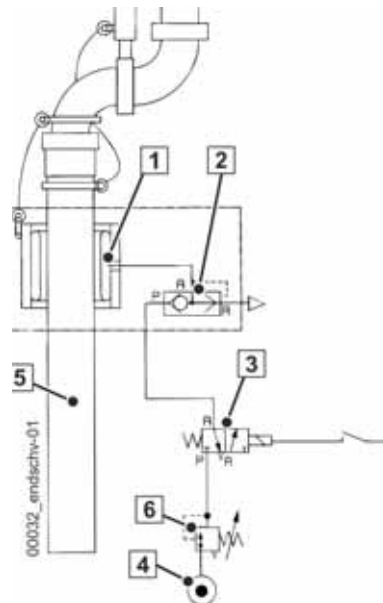

Fig. 585 Non-return valve open
In its default position, the solenoid valve (3) (**Fig. 585**) is de-energised. The compressed air supply to the shuttle valve (2) is interrupted.
The solenoid valve (3) (**Fig. 585**) is de-energised and switches to the default position: "Vent".